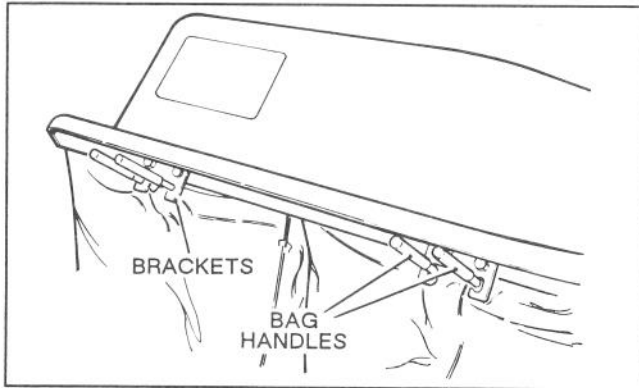

Figure 6
4. Lift rear of bag up to bag cover. Squeeze bag handles, allowing them to be positioned in bag frame brackets. Release bag handles, locking them in brackets (Fig.6)